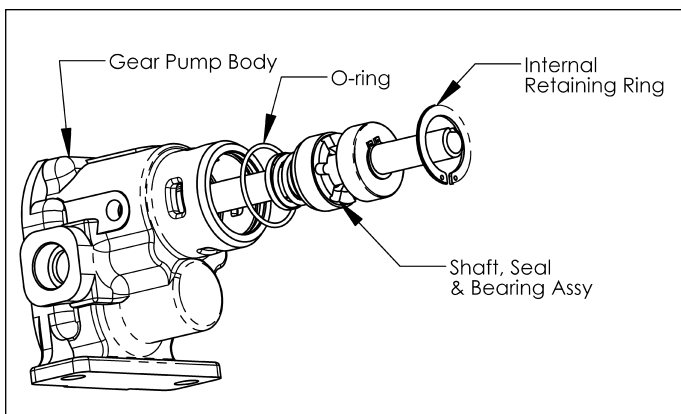
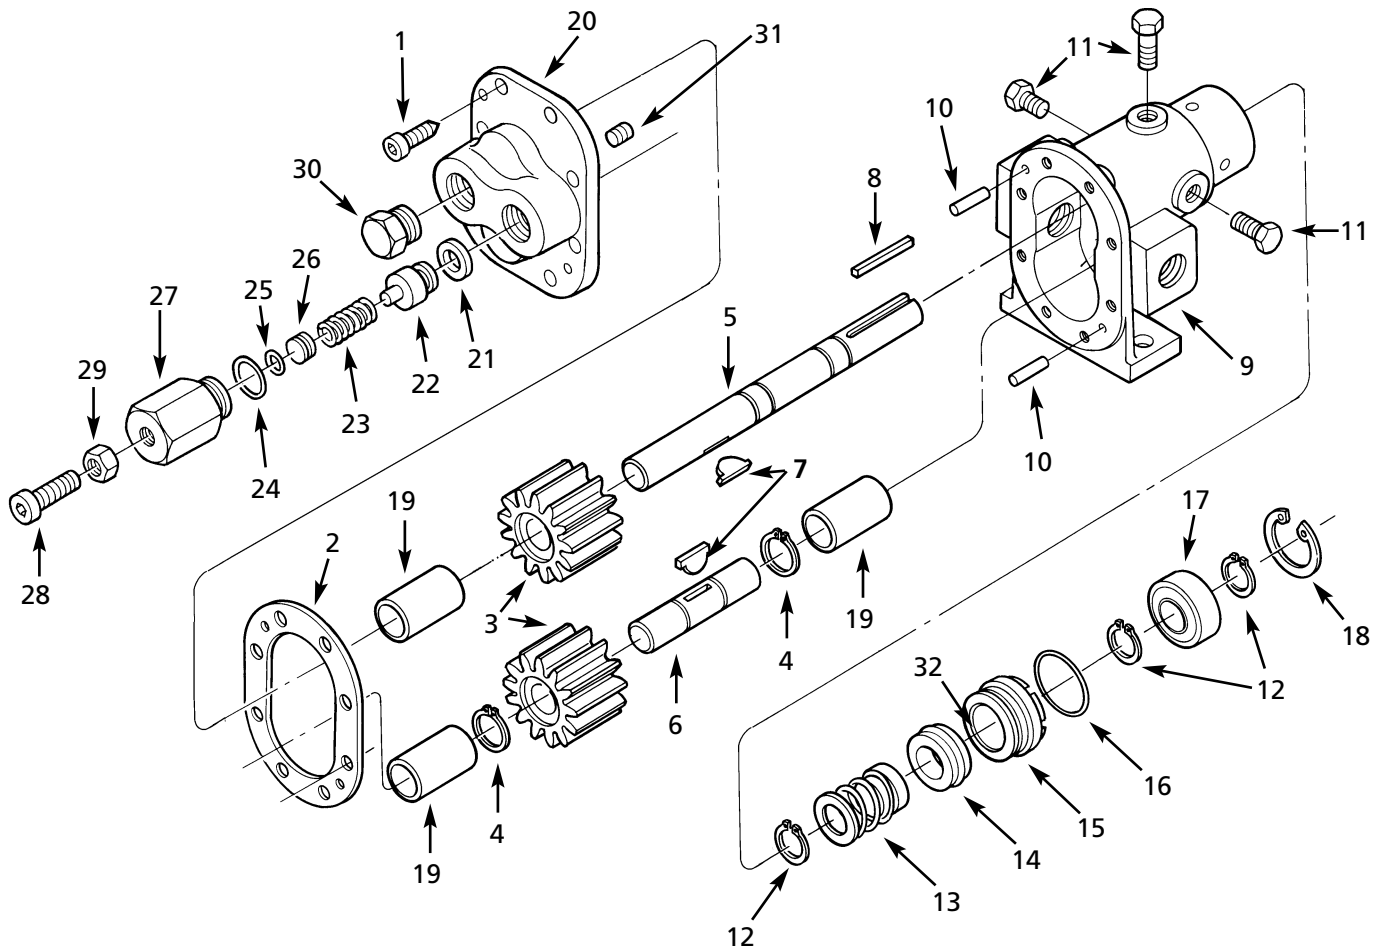

Figure 8 - Shaft, Seal and Bearing Assembly
Figure 13 – Repair Parts Illustration
1. (Refer to Figure 13 for Reference Numbers and Figures 8, 9, 10, 11 & 12 for detailed seal and shaft assemblies.)
(Ref. No. 9). The drive assembly, which consists of the drive shaft (Ref. No. 5), seal assembly (Ref. Nos. 13 & 14), seat retainer (Ref. No. 15), bearing (Ref. No. 17) and retaining rings (Ref. No. 12), can now be removed from the unit (See Figure 8). Also remove the internal o-ring (Ref. No. 16) from the body.
(Refer to Figure 13 for Reference Numbers and Figures 8, 9, 10, 11 & 12 for detailed seal and shaft assemblies.)
the correct seal compression. These are removed only in the very last step of the operation. Do not remove these clips until the last step. Failure to do this will prevent correct installation of the Teflon seal with resulting leakage and or immediate failure of the seal. Note that the working height of the Teflon seal is different than that of either the Viton or Buna-booted seals. As such, the seal will not align to or use the retaining ring. Discard the retaining ring (Ref. No. 12) that was behind the standard seal that came with the pump. The mechanical seal is placed on the shaft with the polished carbon face against the polished ceramic of the seat. Do not use any lubricants when installing the seal other than very clean water. The use of lubricants can cause weeping of the mechanical seal Teflon wedges. Make sure that all of these components are installed tight against each other (ball bearing, seat retainer with seat, and the mechanical seal). (See Figures 8 and 9.)
- e. Slide the seal retainer and bearing onto the drive shaft and install retaining ring, holding the bearing and seal onto the shaft (See Figures 8 and 9).
- f. Slide the drive shaft assembly (Ref. Nos. 5,12,13,14,15 & 17) into the gear pump body and secure with the internal retaining ring (Ref. No. 18). (Also see Figure 8.)